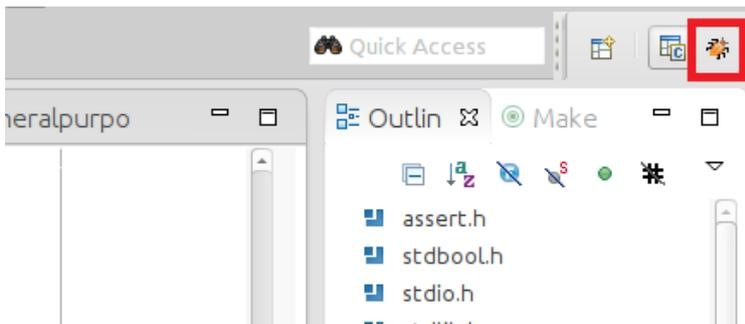

Figure 12-13. Switching to the DS-5 Debug Perspective
20. Switch to the DS-5 Debug perspective, as shown in Figure 12-13.